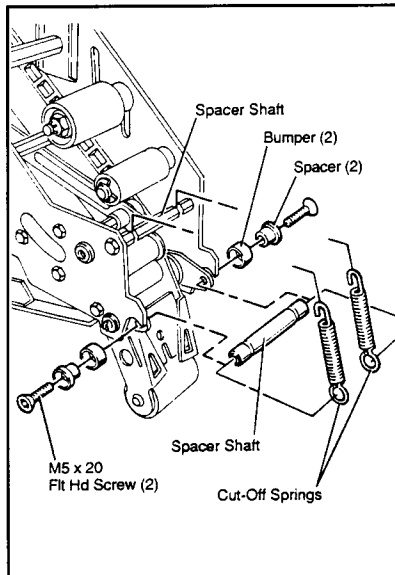

Figure 1
1. Remove the two cut-off springs from the spacer shafts using a needle nose pliers. Figure 1.
2. Use a 3 mm hex wrench and remove the two M5 x 20 flat head screws, spacers and bumpers from the cut-off bracket spacer shaft. Figure 1.